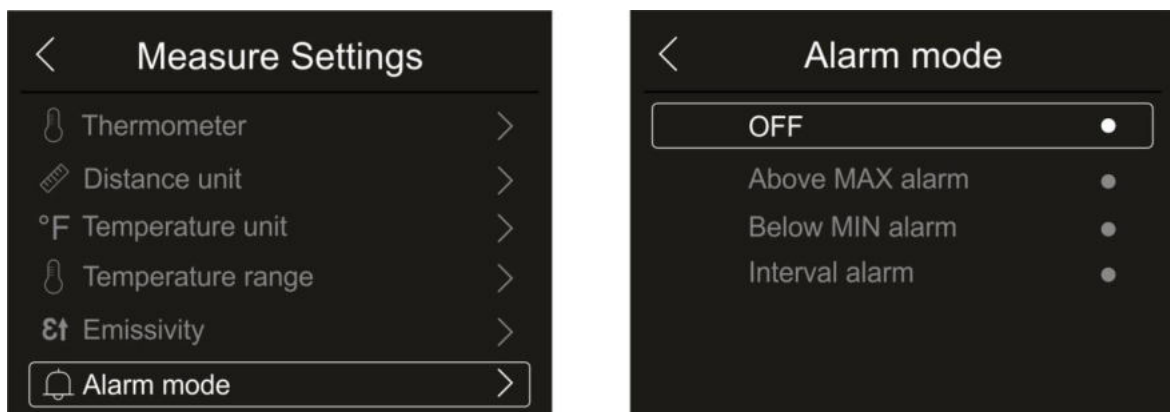

Fig. 26: Menu for Activation of alarm thresholds on measurements
1. Touch the item “Alarm mode” to activate the acoustic alarm thresholds on temperature measurement associated to the objects inserted onto the image (cursor, dots, lines and areas) associated to the “Alarm” function in the main menu (see § 5.3). The screen in Fig. 26 – right side appears on the display: